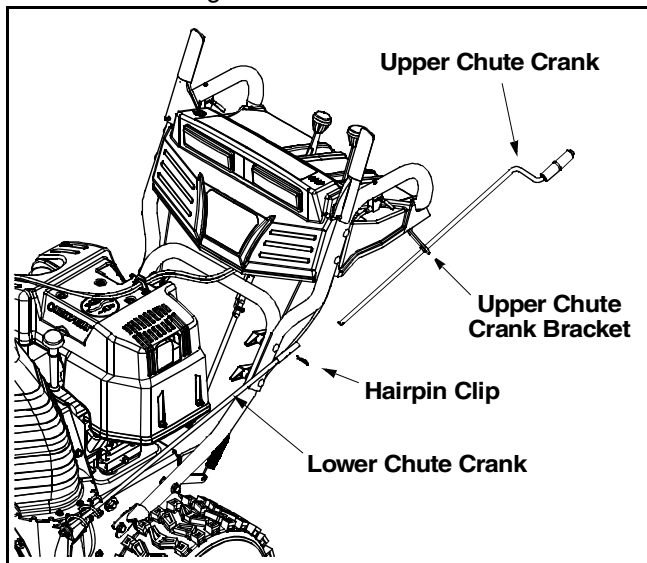

Figure 4
- Remove the hairpin clip from the upper rod and slide the upper rod through the bracket and into the lower rod. See Figure 4.
- Align the two holes on both chute cranks and insert the hairpin clip removed earlier, through these holes. See Figure 4.